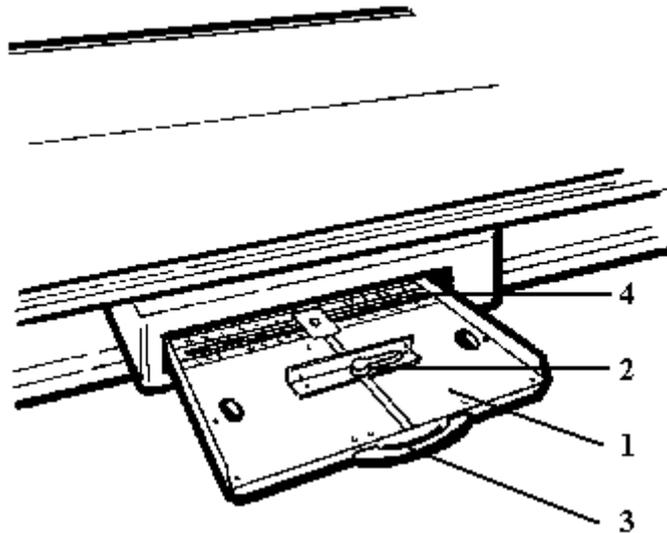
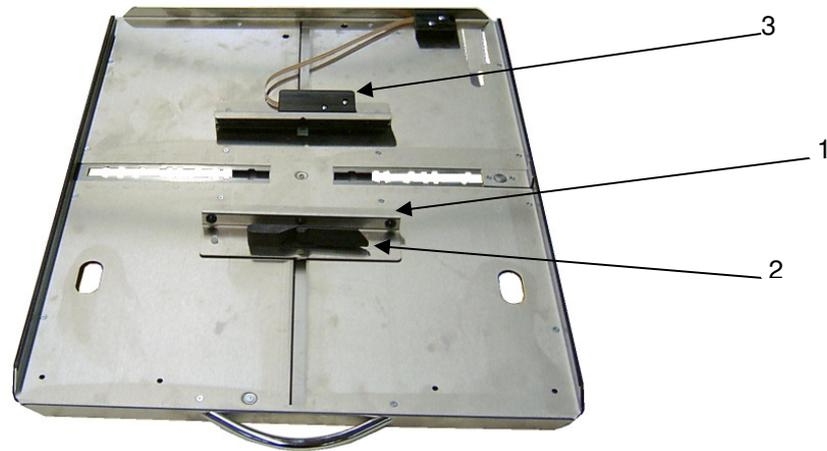

Figure 2-1: Cassette Tray
Abbildung 2-2
The controls of the Manual Cassette Tray KL are shown in Figure 2-1: Cassette Tray and their functions are briefly described on the following page.
The cassette tray (Figure 2-1, item 1) positions the film cassette in the Bucky.
Two cassette clamps (Figure 2-1, item 2) center the film cassette transversely within the cassette tray (Figure 2-1, item 1).
A film cassette may be inserted, when the cassette tray (Figure 2-1, item 1) is pulled out by its handle (Figure 2-1, item 3) from the Bucky to the forward stop.
The film cassette may be longitudinally centered within the cassette tray (Figure 2-1, item 1) with its transverse center line aligned with the notch in the cassette clamps (Figure 2-1, item 2) or by pushing the film cassette against the cassette positioner (Figure 2-1, item 4) positioned into the locking corresponding to the inserted film cassette.
After positioning of a film cassette into the cassette tray (Figure 2-2, item 1) and locking of the cassette clamps (Figure 2-2, item 2), the cassette sensing unit (Figure 2-2, item 3) will be activated and generates the cassette safety release signal (fail-safe).
- Pull out the cassette tray (Figure 2-1, item 1) by its handle (Figure 2-1, item 3) from the Bucky until it hits the forward stop.
- The cassette clamps (Figure 2-1, item 2) center the film cassette transversely within the cassette tray. Rotate its latch counterclockwise to unlock it.
- Open the cassette clamps (Figure 2-1, item 2) far enough to insert a film cassette of the desired size.
- Insert the film cassette with its transverse center line aligned with the notch in the cassette clamps (Figure 2-1, item 2) or push the film cassette against the cassette positioner (Figure 2-1, item 4) positioned into the locking corresponding to the inserted film cassette (13 cm, 18 cm, 24 cm, 30 cm, 35 cm, 40 cm, or 43 cm).
- Push the cassette clamps (Figure 2-1, item 2) against the film cassette, and rotate the latch into the locked position, so that the cassette sensing unit (Figure 2-2, item 3) will be activated and generates the cassette safety release signal (fail-safe).
- Push the cassette tray (Figure 2-1, item 1) fully into the Bucky, so that the cassette safety release signal (fail-safe) is transferred via the contact block to the Bucky electronic.